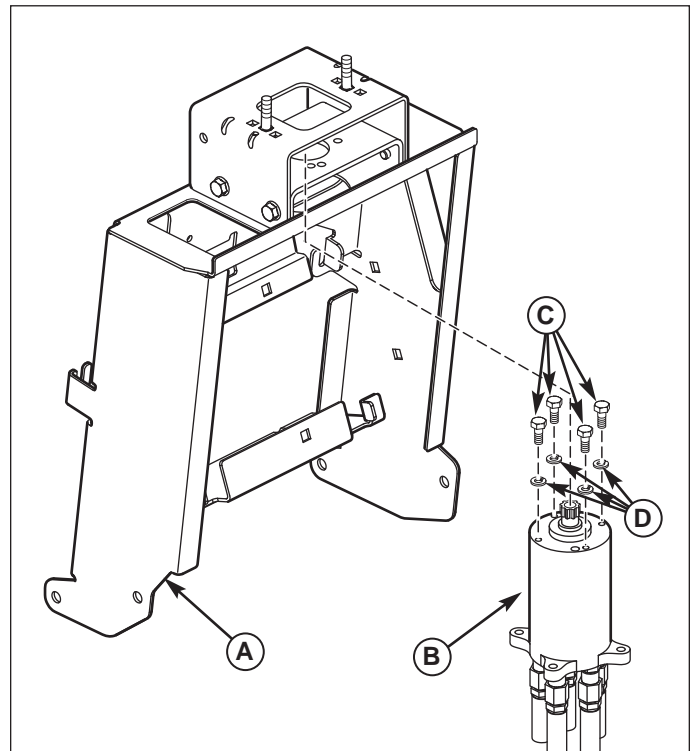

Figure 14 Power Steering Installation
2. Attach new power steering unit (B, Figure 14) to new tower (A) using four M6 x 16 mm screws (C), and four 1/4 lockwashers (D). Tighten screws to 97 in. lbs (10.96 Nm).